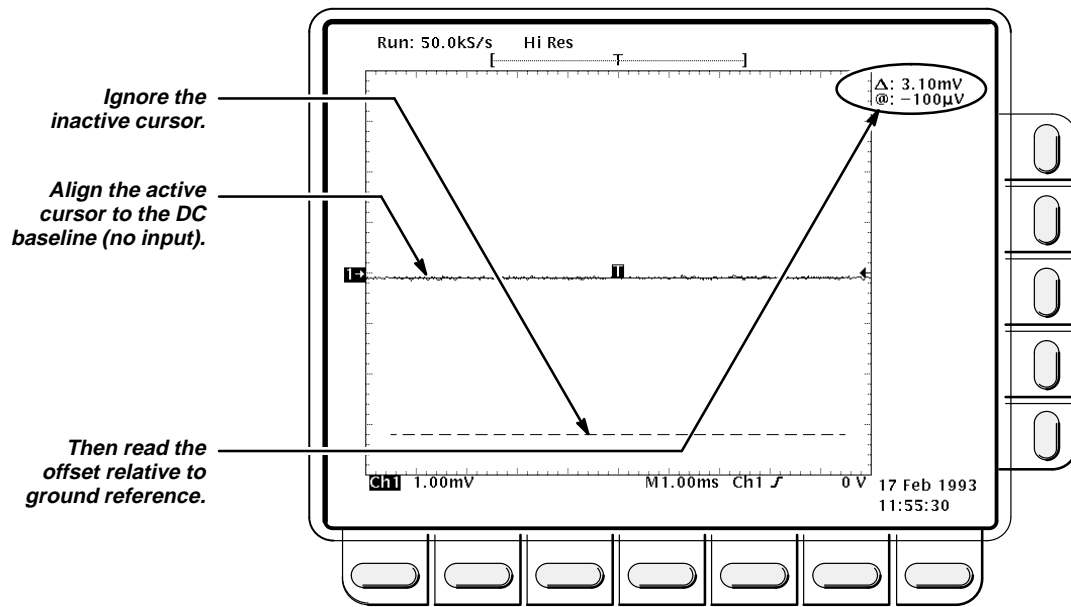

Figure 1-4: Measurement of DC Offset Accuracy at Zero Setting
- e. Read the measurement results at the absolute (@:) cursor readout, not the delta (Δ:) readout on screen (see Figure 1-4).